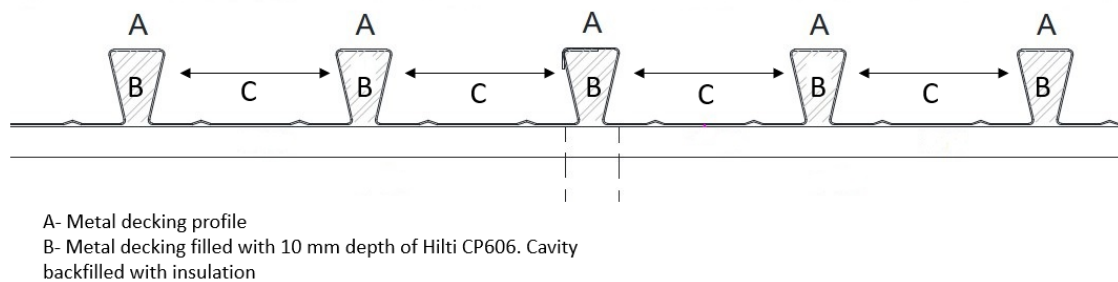

Figure 7 Metal decking sealing system
*This table is applicable if the wall is perpendicular to the metal decking. If the wall is parallel to the decking, listed FRLs are applicable without the necessity of “Metal deck profile sealing”. The width between the decking (indicated as C in Figure 7) must be higher than the thickness of the wall. The wall must be installed in between the decking profile (within C section) and the head track and the TTS must not be exposed to the metal decking profile cavity.